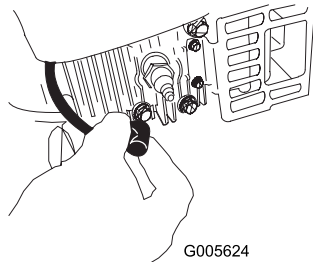

Figure 28
- Disconnect the spark plug wire from the spark plug before performing any maintenance procedure (Figure 28).